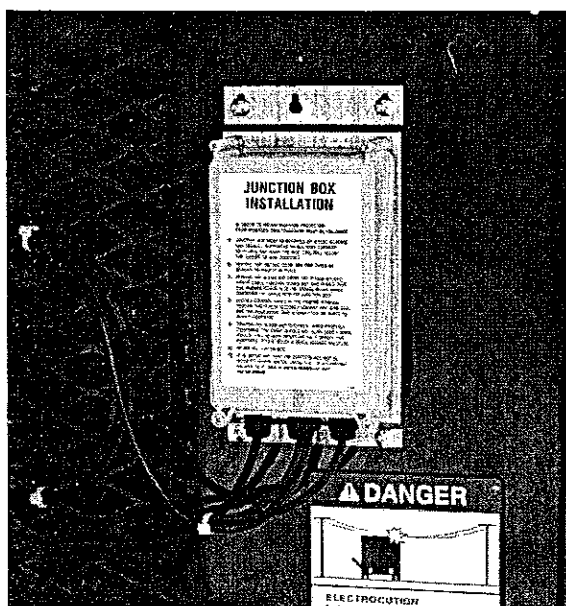

Figure 39. Digi-Star Junction Box.
1. Locate and mount the junction box on the front conveyor shield per instructions on the junction box cover (Figure 39).